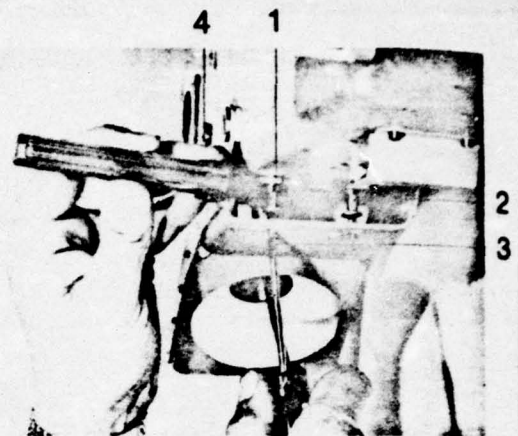

Figure 3.20
3.6.7 Limit Switch Adjustment HOIST (Figure 3.20)